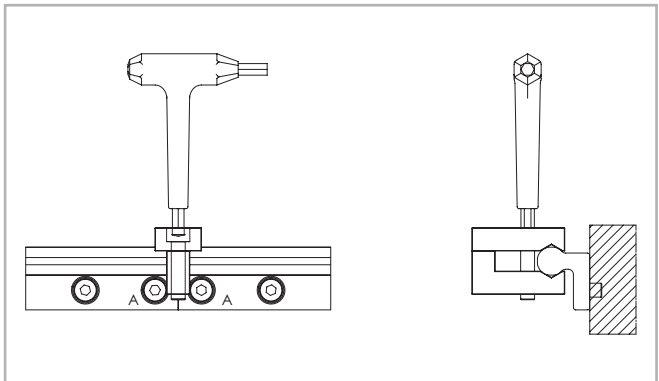

Fig. 28
- (3) Place the alignment fixture on the rail joint and tighten both set screws uniformly, until the raceways are aligned (see fig. 28).
- (4) After the previous step (3) it must be checked if both rail backs lie evenly on the mounting surface. If a gap has formed there, this must be shimmed.